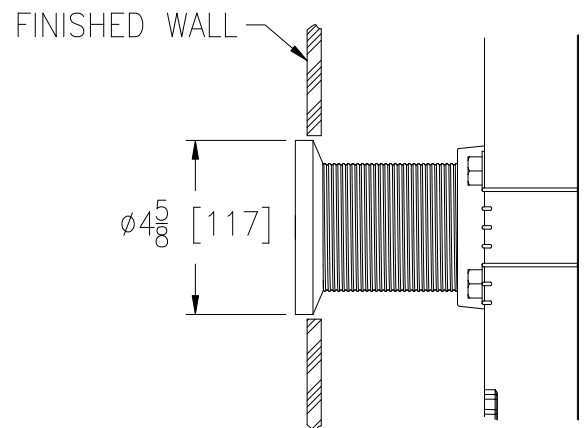

Fig. 16
16. Finished wall should be installed. Ensure appropriate size opening is made for coupling. For EZ-Set™ Coupling hole sizing See Fig. 16